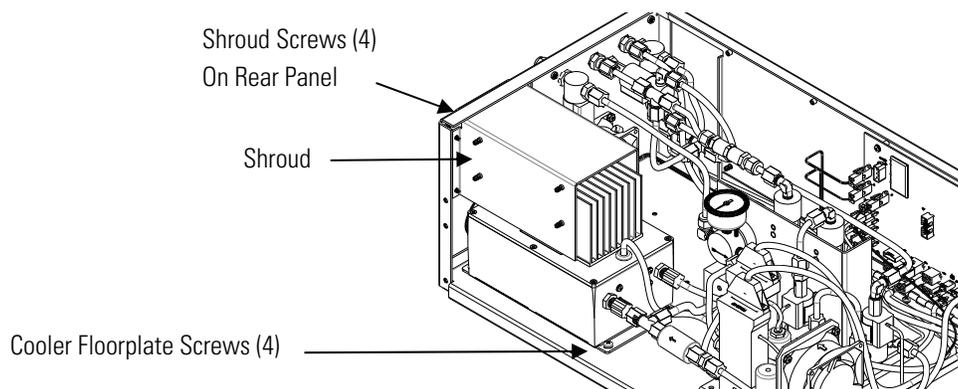

Figure 7-6. Replacing the Cooler
Use the following procedure to replace the cooler assembly (see **Figure 7-6**).
3. Remove the four screws securing the cooler shroud and remove the shroud (**Figure 7-6**).